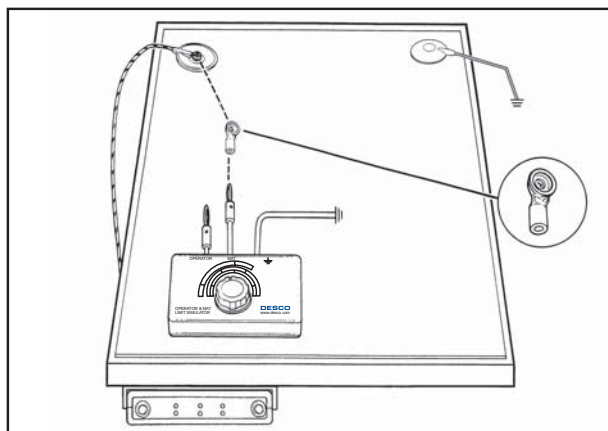

Figure 5. Testing 19232/19233 worksurface for "PASS" and "FAIL" ranges as indicated on calibration unit.
Step 2: Connect the 09782 adapter to the banana plug marked "Mat" on the calibration unit. Disconnect the 19232/19233's mat connection and re-install to calibration unit's adapter. See figure 5.